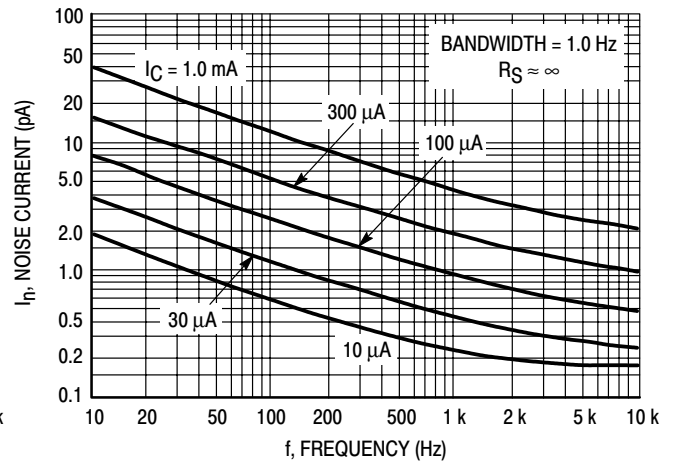

Figure 4. Noise Current
- $I_n$  = Noise Current of the Transistor referred to the input. (Figure 4)
$I_n$  = Noise Current of the Transistor referred to the input. (Figure 4)